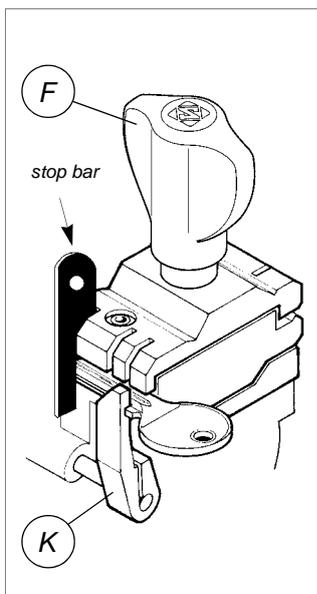
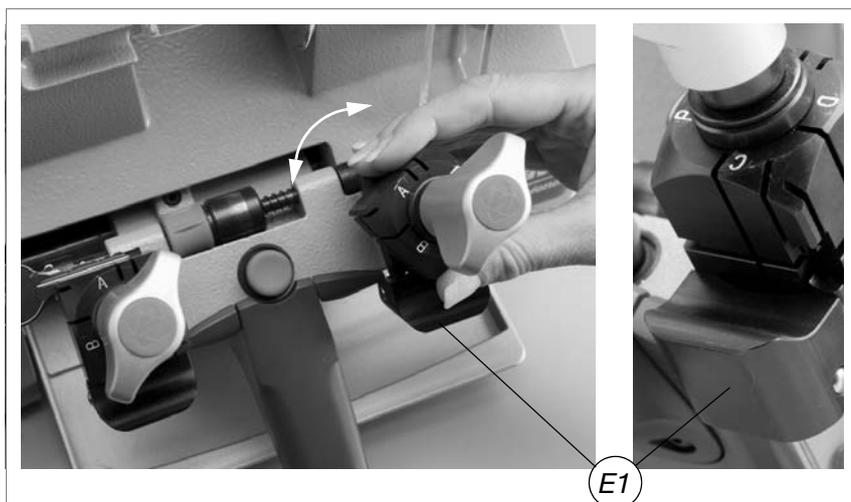

Fig. 18
Fig. 19
- b) the key stop butts against the gauge (K) or, in the absence of a stop, the tip of the key is against the stop bar (fig.18).
- c) close the jaws by turning the knobs (F).
- 1) Unscrew the knobs (F) by a couple of turns.
With loosened handle (F) a light rotation of the clamp is sufficient (gripping by the 2 jaws) to turn it to the required side. Alignment is automatic and guaranteed by the mobile pressure device (E1) (\*) (fig.19).